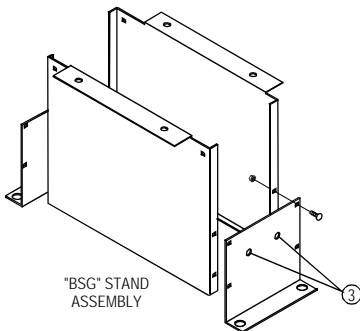

Figure 4
- (1.) With cover removed, assemble power head on stand (shown in figure 4) with 3/8 inch hardware.